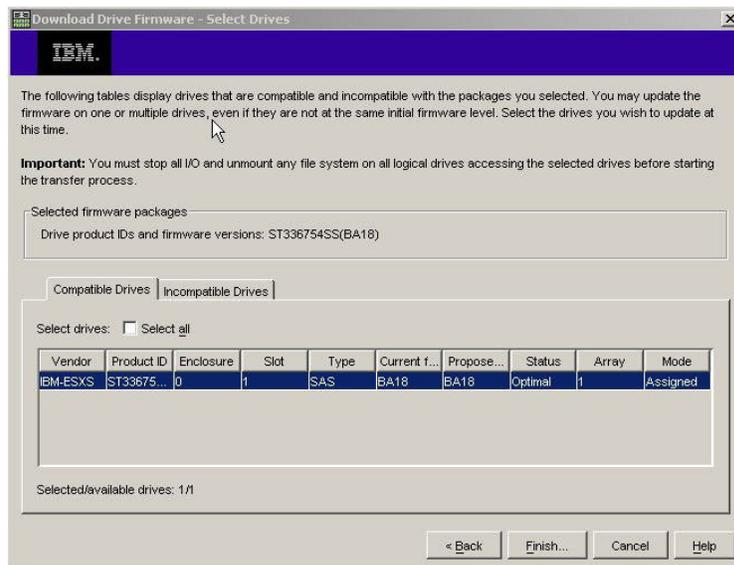

Figure 31. Select Drive window
8. In the Select Drive window (shown in Figure 31), click the **Compatible Drives** tab. The Compatible Drives page contains a list of the drives that are compatible with the firmware package types that you selected. Press and hold the Ctrl key while you use the mouse to select multiple drives individually, or press and hold the Shift key while you use the mouse to select multiple drives that are listed in series. The compatible firmware that you selected in steps 4 on page 87 and 5 on page 87 are downloaded to the drives that you select.